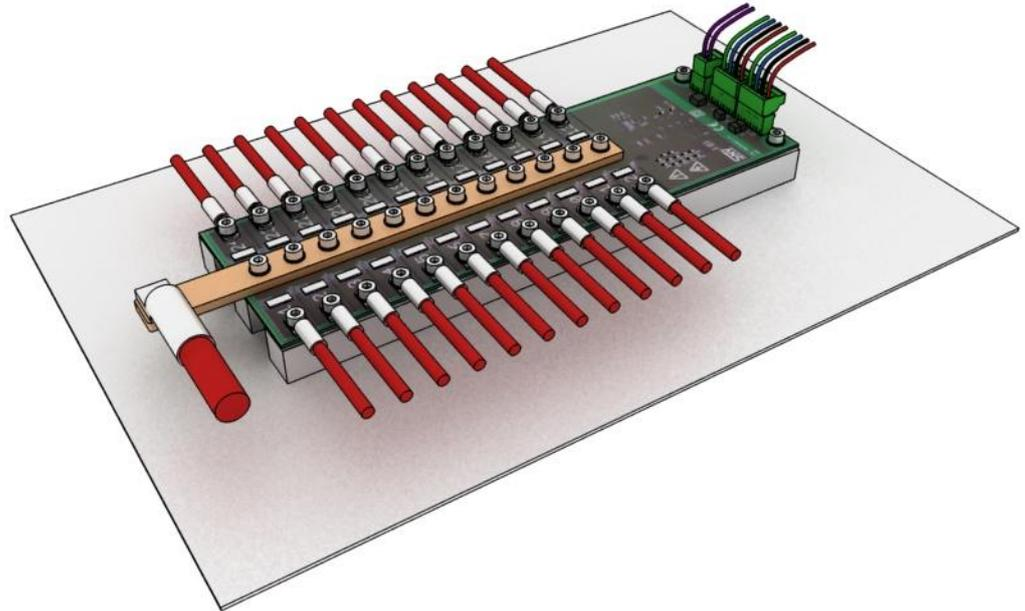

Figure 11: Plug the connectors on the card
6. Plug connectors CON1/CON2, CON3/CON4 and CON6 on the card as shown in figure 11.